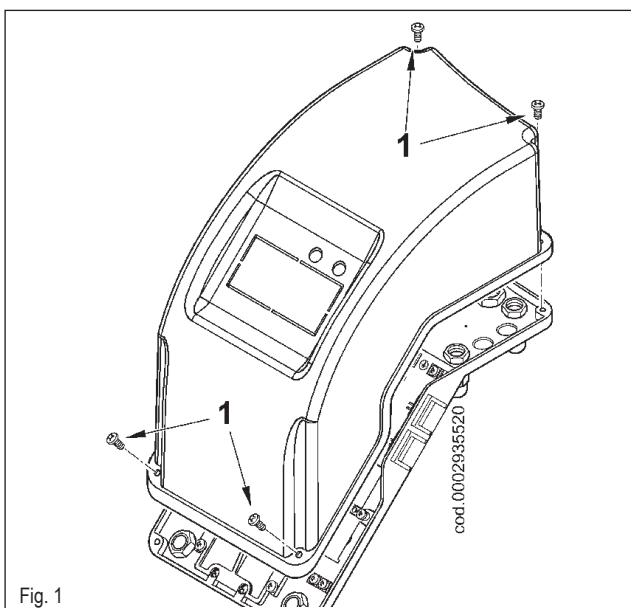

Fig. 1
- Remove the lid by unscrewing the 4 screws (1) in figure 1. In this way the burner's electrical panel can be accessed.